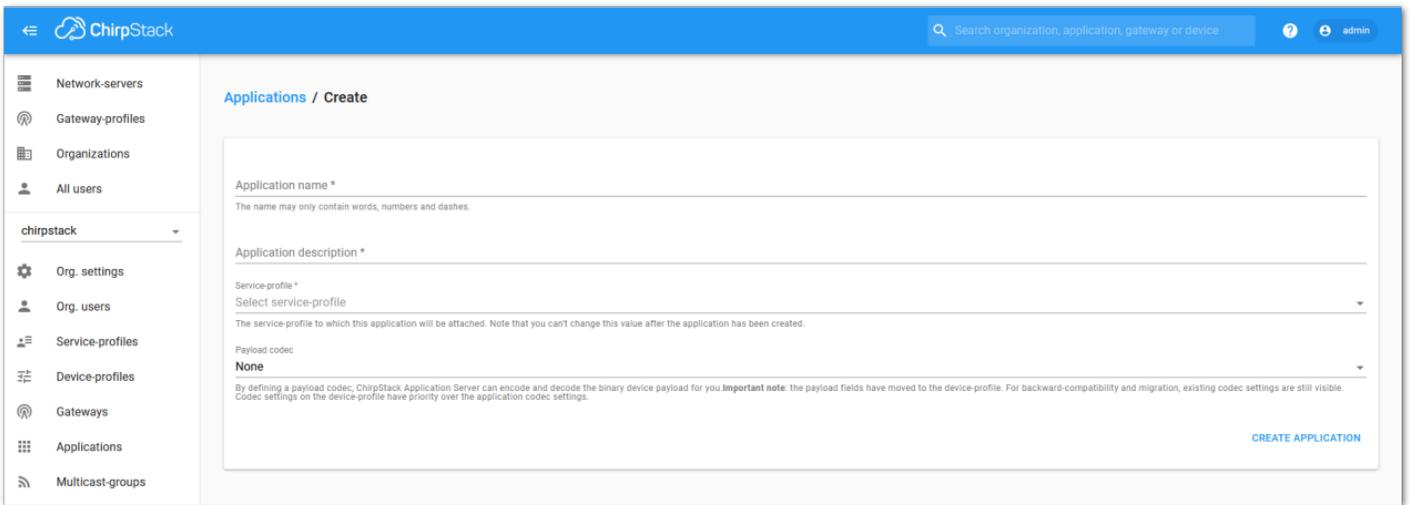
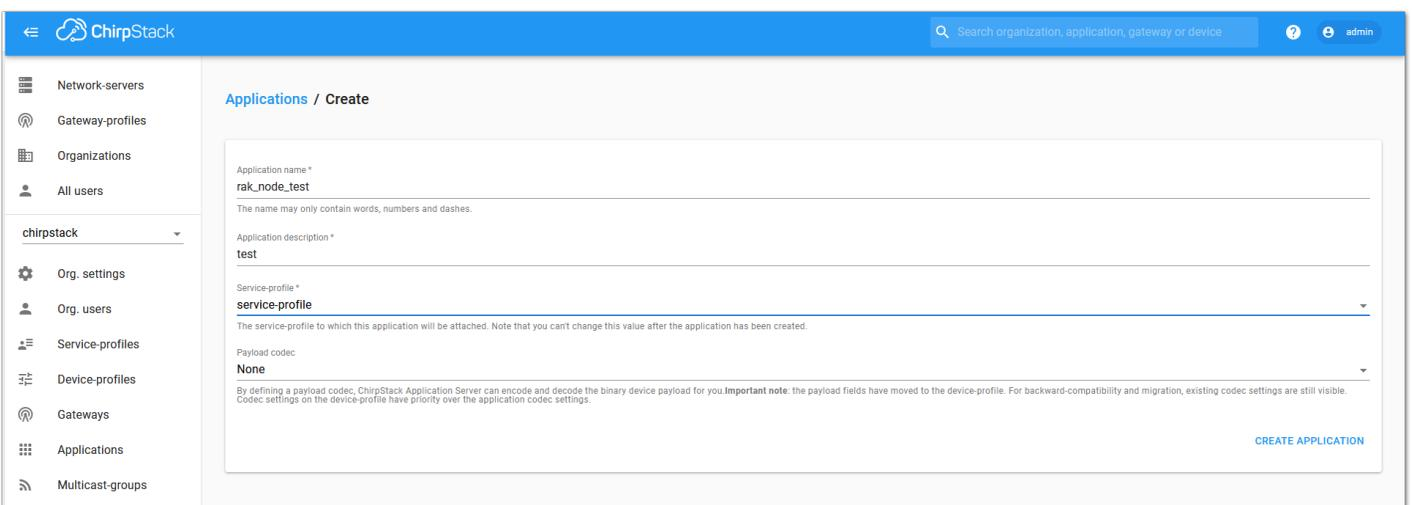

Figure 72: Creating a new application
Figure 73: Filling in the parameters of an application
3. By default, you should create a new application, although you can reuse existing ones. For this setup, create a new Application by clicking on the “**CREATE**” button and filling in the required parameters, as shown in **Figure 72** and **Figure 73**.